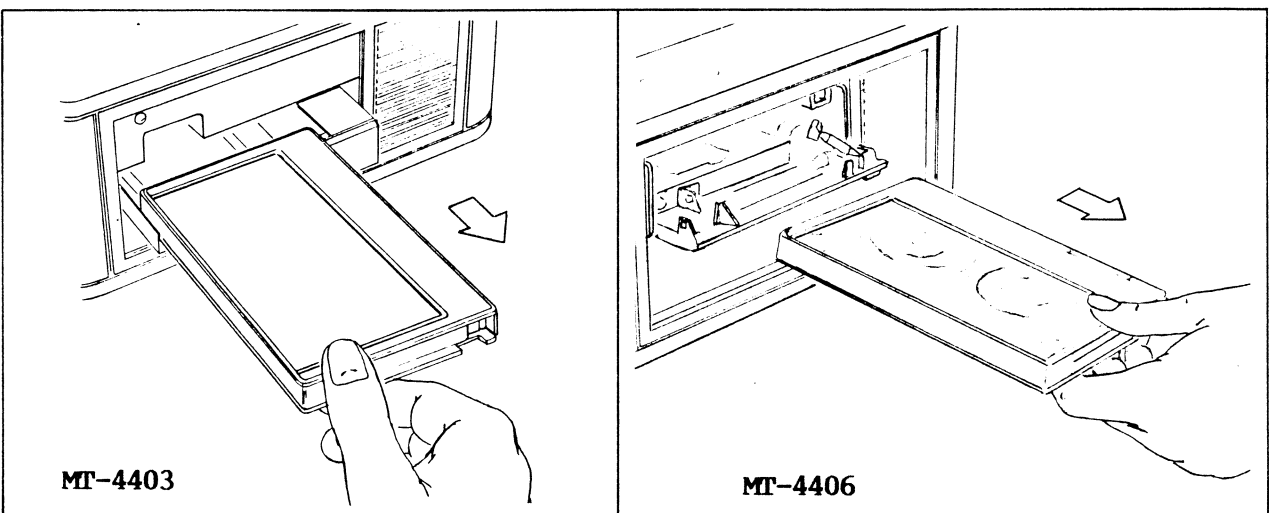

Figure 3-9. Removing Tape Cartridge
3. MT-4403. Carefully remove the tape cartridge from the tray, as shown in figure 3-9.
MT-4406. Remove the tape cartridge, as shown in figure 3-9.